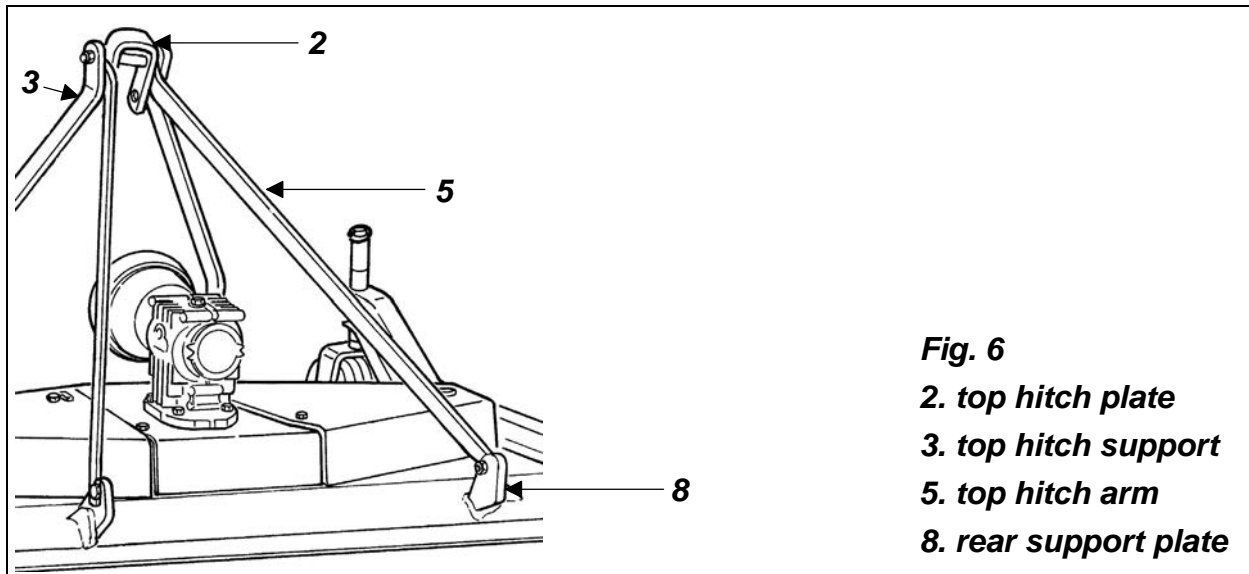

Fig. 6
7. Bolt up the top hitch arms (see #5, fig. 5 & 6) to the **outside** of the rear support plates on the rear of the mower (see #8, fig. 6).